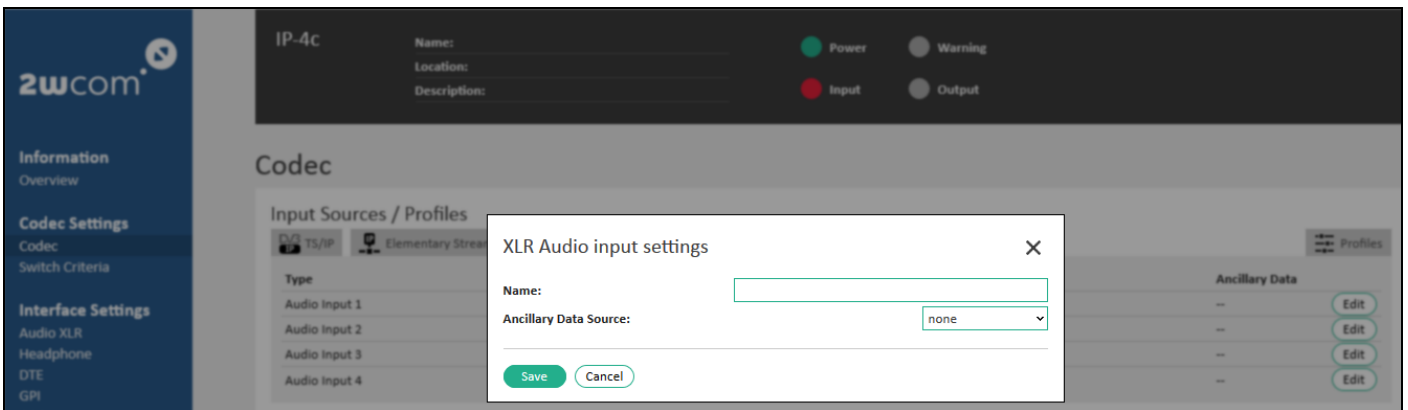

Figure 21: Input Source for coder – Audio Input 1-4
3. Enter the following data in the fields of the configuration of the input source “Audio Input 1-4” in the “Edit” menu (see Figure 21: Input Source for coder – Audio Input 1-4 on page 39).